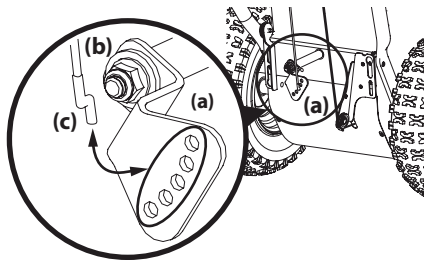

Figure 4-9
1. Lift the shift cable index bracket (a) up to create slack in the cable (b) See Figure 4-9.